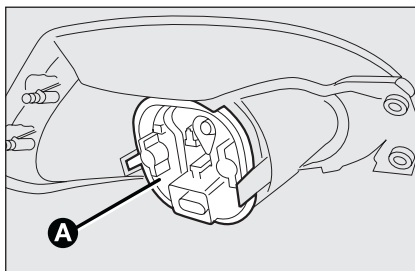

fig. 29
- ☐ disconnect the electric connector and remove the protective cover **A-fig. 29** pressing the three catches and replace the burnt out bulb.